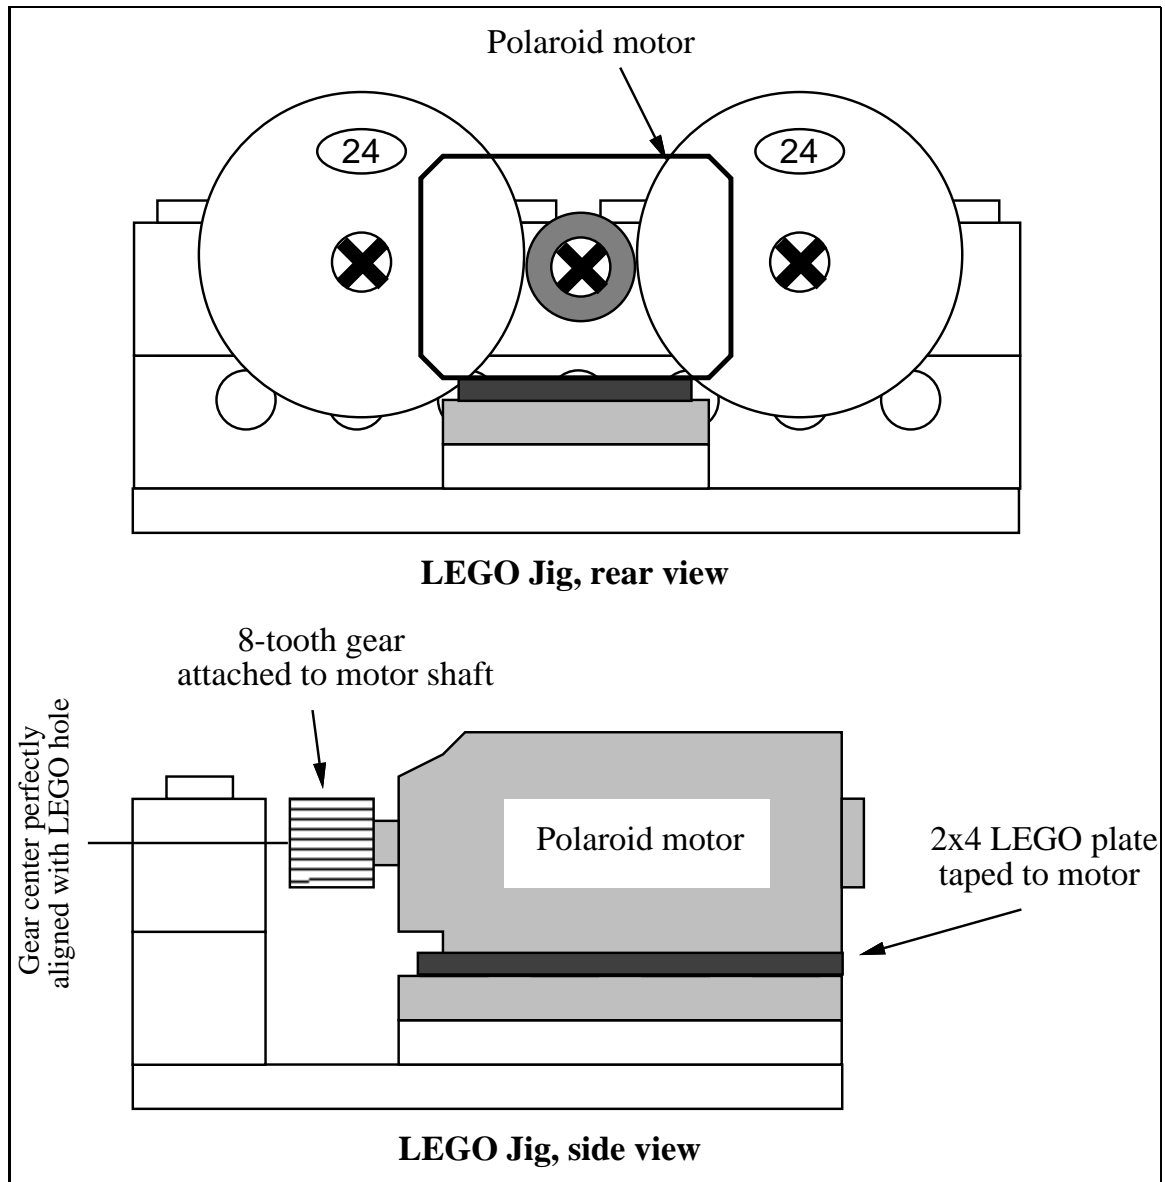

Figure 4.21: LEGO Jig for Mounting Polaroid Motor
This platform or jig is shown in Figure 4.21. It is constructed from two 2×8 beams, one 6×8 flat plate, one 2×4 plate, two 24-tooth gears, and two axles.
- Assemble the jig as shown in Figure 4.21. A second 2×4 plate will be mounted to the motor.